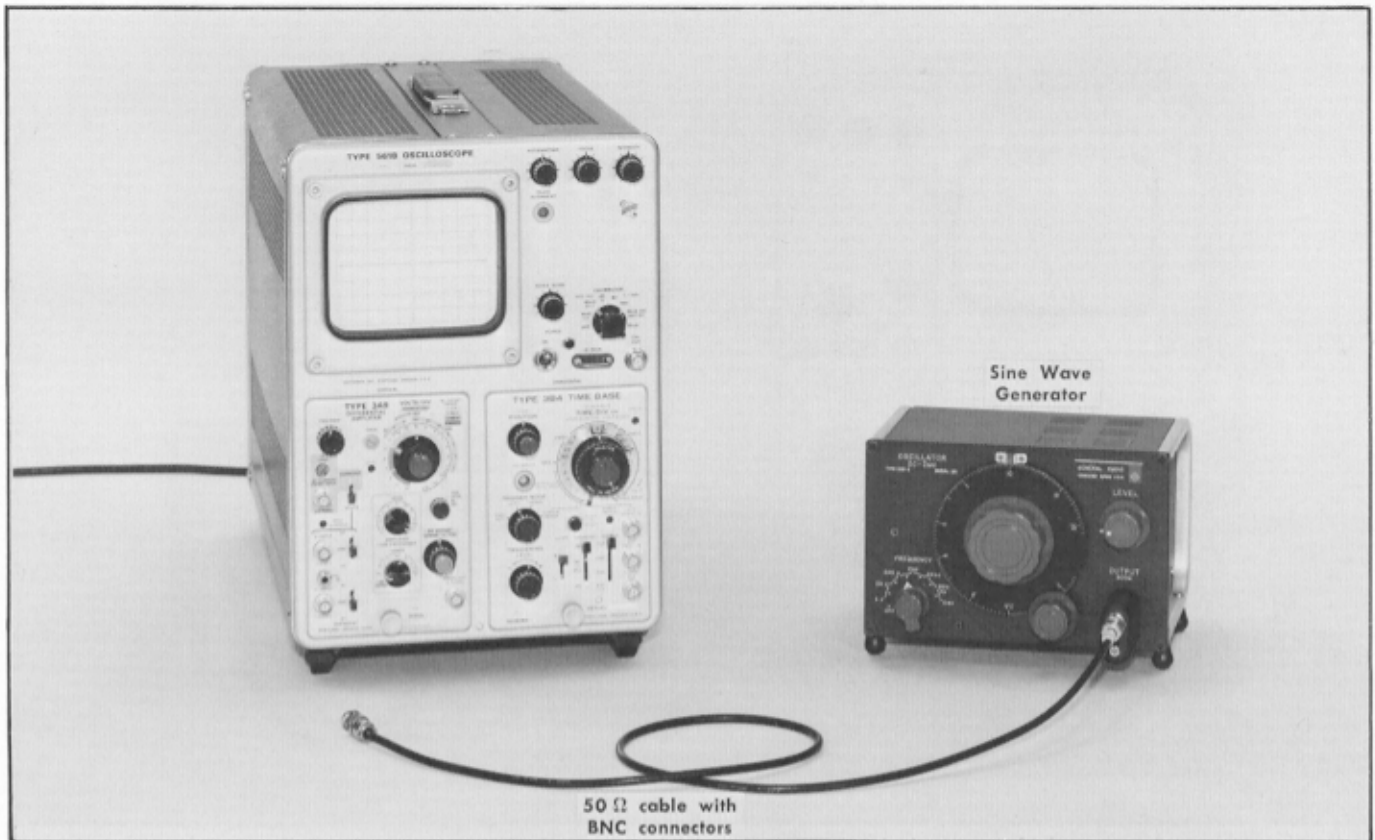

Fig. 5-10. Equipment required for step 11.
- Test equipment is shown in Fig. 5-10.